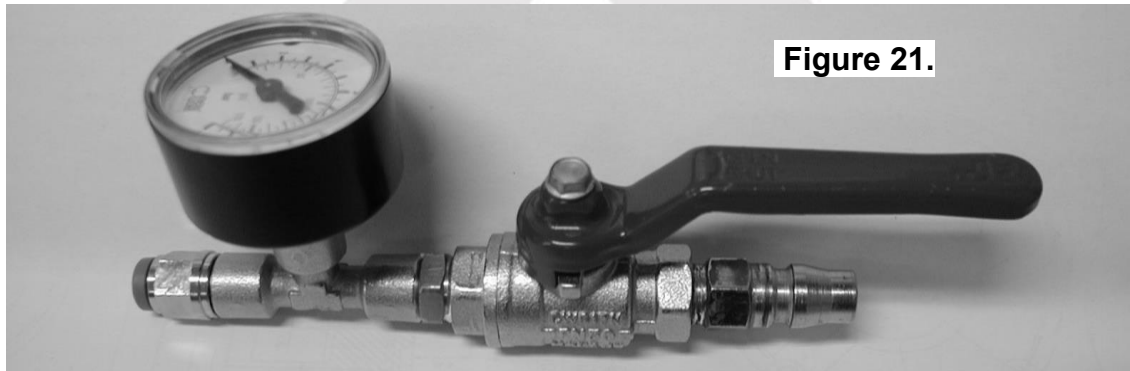

Figure 21.
- While holding the seal housing tube into the bulkhead fitting, insert the chamfered end of the center compression nut over the extended tube as shown in the assembly diagram (Fig. 21.), and screw it into the bulkhead body, and tighten using Pozidriv #3 screwdriver.
NOTE : An accurate way to test for air leaks is to fit a shut-off valve to an air pressure gauge. (ARB part # 0770005 shown in Fig.21.). Once 620 KPA [90 PSI] is reached close the valve, disconnect the air hose, and watch to see if there is any drop in pressure. If so, this will indicate an air leak.